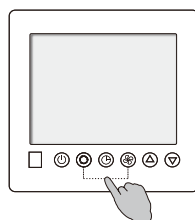

fig.1
1. Hold down Mode button and Fan button for 3s simultaneously to enter parameters customer-reading state, then customer-reading parameter codes will display in the temperature display area.(See fig.1)